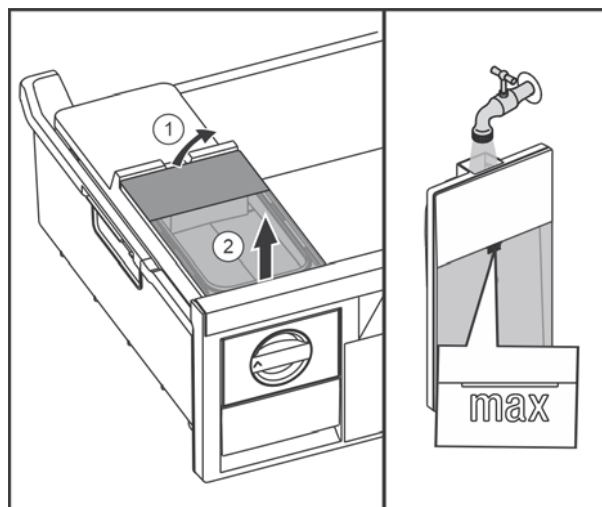

Fig. 31
- Lift up the water tank at the rear Fig. 31 (1) and take it out upwards Fig. 31 (2).